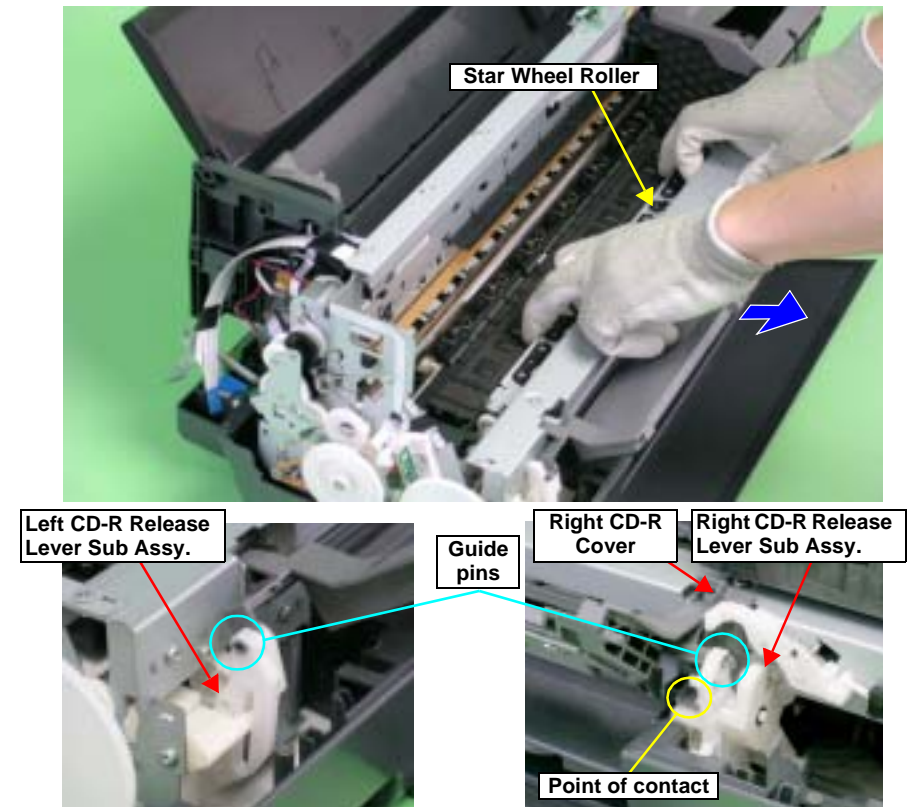

Figure 4-84. Removing the Paper EJ Frame Assy.
- Tighten the screws in the order shown in Figure 4-84.